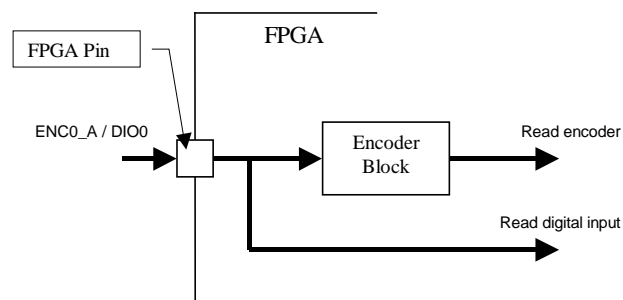
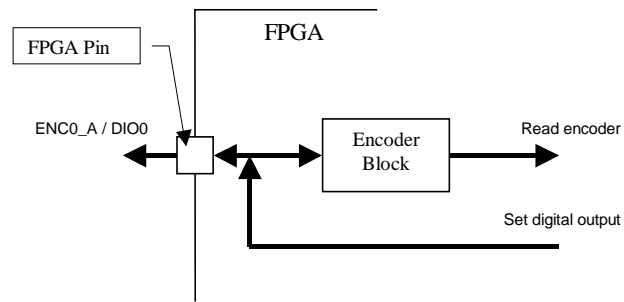

Fig. 4.3. The shared FPGA pin configured as the input
Fig. 4.4. The shared FPGA pin configured as the output
- the second kind of the specialized blocks contains only the digital input signals (the incremental encoders, counters, frequency meters and chronometers). In this case it is not necessary to select the operating mode of the block signals. If the appropriate general purpose I/O signals are configured to be the inputs then their states can be read by the software and simultaneously the signals excite the specialized block (see Fig. 4.3). If the shared general purpose I/O signals are configured to be outputs their states can be set by the software and simultaneously the signals excite the specialized block (see Fig. 4.4). This operating mode can be applied for testing of the specialized blocks – for example the encoder can be excited and read in a software manner. This testing strategy is not significant during common device applications. It may be very useful when one wants to design and test his own FPGA blocks (see “*USB Device XILINX Programming Guide*”)